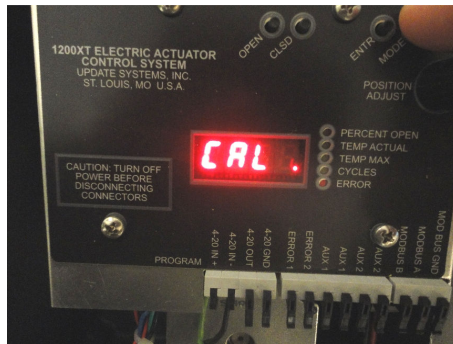

Figure 10
Step 1: To enter calibration [CAL] mode, toggle the **MODE** button until [CAL.] is displayed (Figure 10), then press the **ENTR** button.